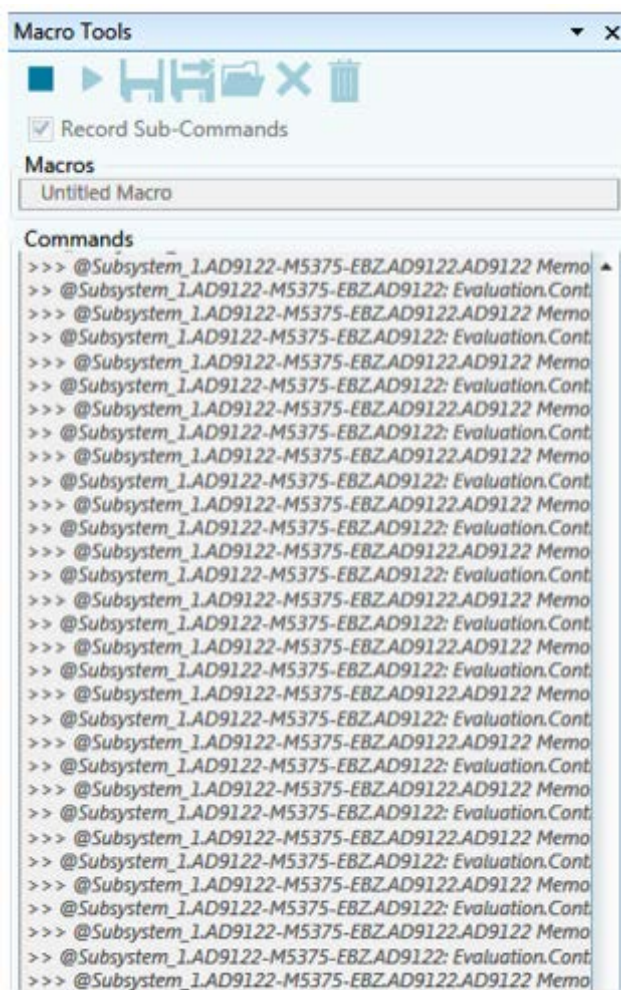

Figure 21. Macro Tool in the ACE Software
The ACE software contains a macro tool that can record register reads and writes, which are executed in the memory map view or with the initialization wizard. To use the macro tool, select the **Record Sub-Commands** checkbox and click the record control. Changes in the memory map are bolded until they are applied to the device and are recorded as user interface (UI) commands by the macro tool when the changes are applied. Modified register write commands for the controls are also recorded in the macro tool, as shown in Figure 21. Click **Apply Changes** to execute the commands and make changes in the memory map. To stop recording, click the stop recording control in the **Macro Tools** window and save the macro so that it can be loaded for future use.